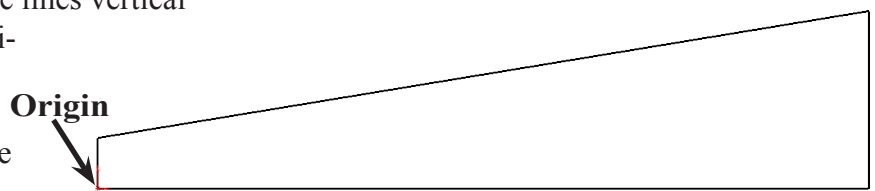

Fig. 3
Step 3. Starting at the Origin  draw the sketch in **Fig. 3**. Use the inferencing line, the dotted line that appears when you draw the lines to keep the side lines vertical and the bottom line horizontal, **Fig. 3**. Do not add any extra lines. If you make a mistake, use Undo, **Ctrl-Z**.